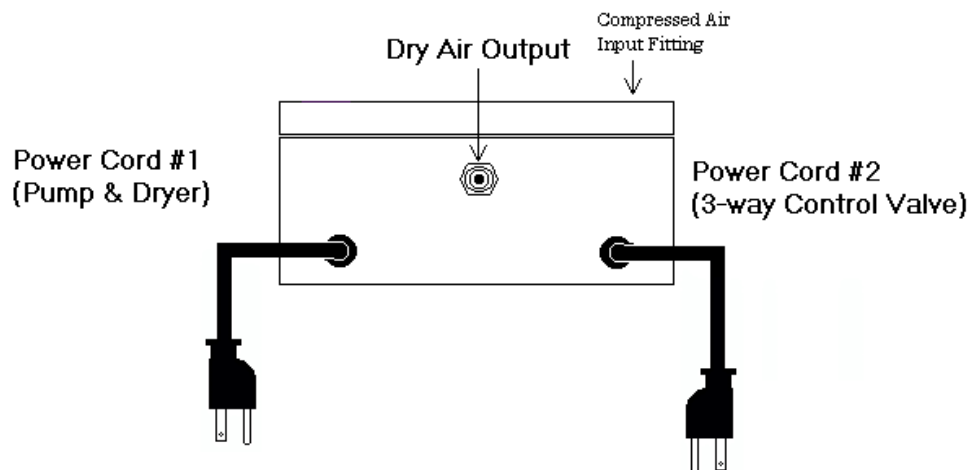

Figure 3.0-1
1. The dry air output is located on the rear, center of the unit (with ¼" Quick Connect fitting and a flow regulator). Attach ¼" OD tubing between this fitting and chamber. See Figure 3.0-1.